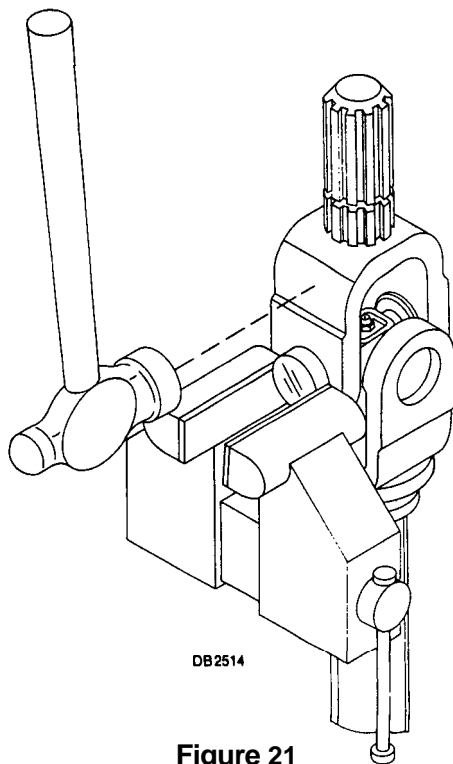

Figure 21
3. Clamp cup in vise as shown in figure 21 and tap on yoke to completely remove cup from yoke. Repeat steps **two** and three for opposite cup.